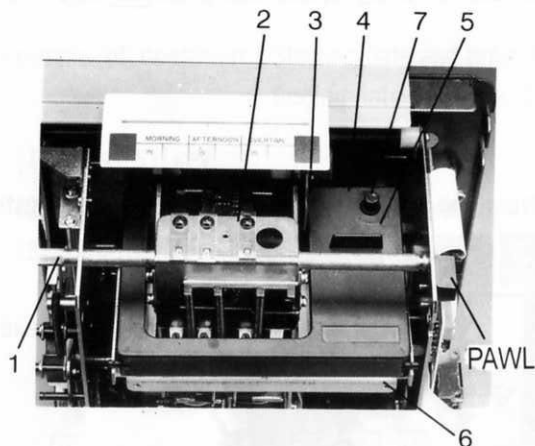

Figure 12
- (1) Pull out the shaft (1) in figure 12 toward left.
- (2) Open the display block by pulling and turning its left-hand side toward you.
- (3) Press leaf spring (3) on the right-hand side of printing block (2) toward the printing block side and disengage knob (5) of ribbon cassette (4) from the leaf spring by slightly pressing the knob toward the right.
- (4) As shown in fig. 12 , remove the old cassette from holder (6) and install a new one.
(5) Tighten the ribbon by turning take-up knob (7) and adjust the ribbon untill it comes between the printing wheel and printing head (8) and the cassette is engaged with ribbon feed gear (9) .